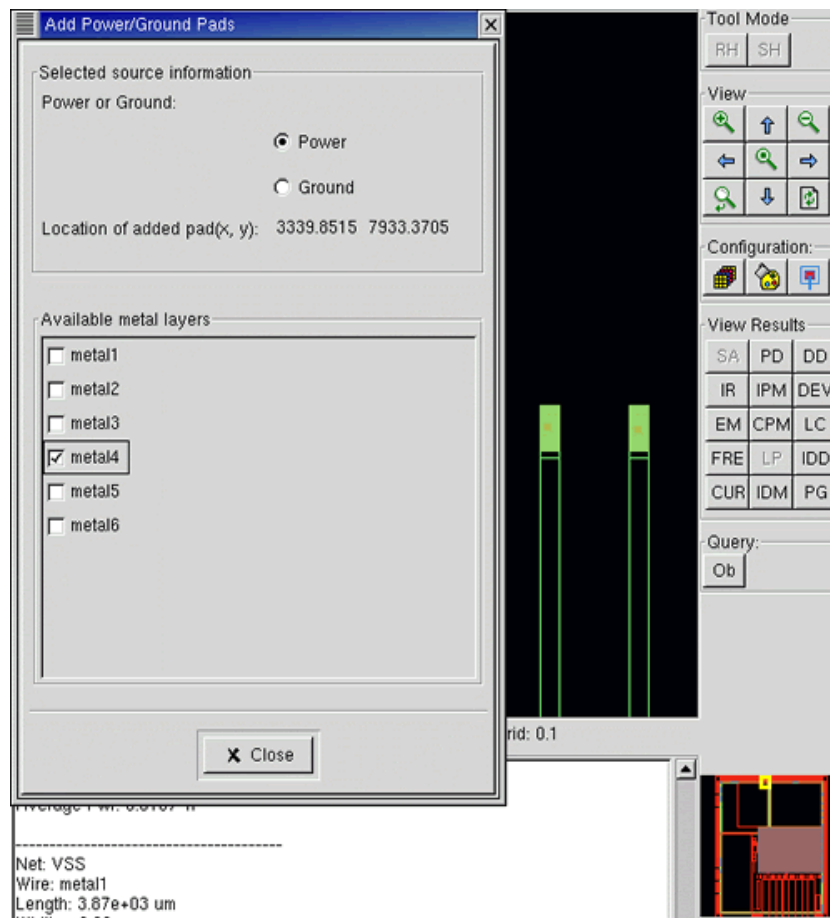

Figure 4-16 Adding two power pads on two metal4 straps
1. Add two power pads on the two metal4 straps by using **Edit > Add Pad**, as shown in Figure 4-16.